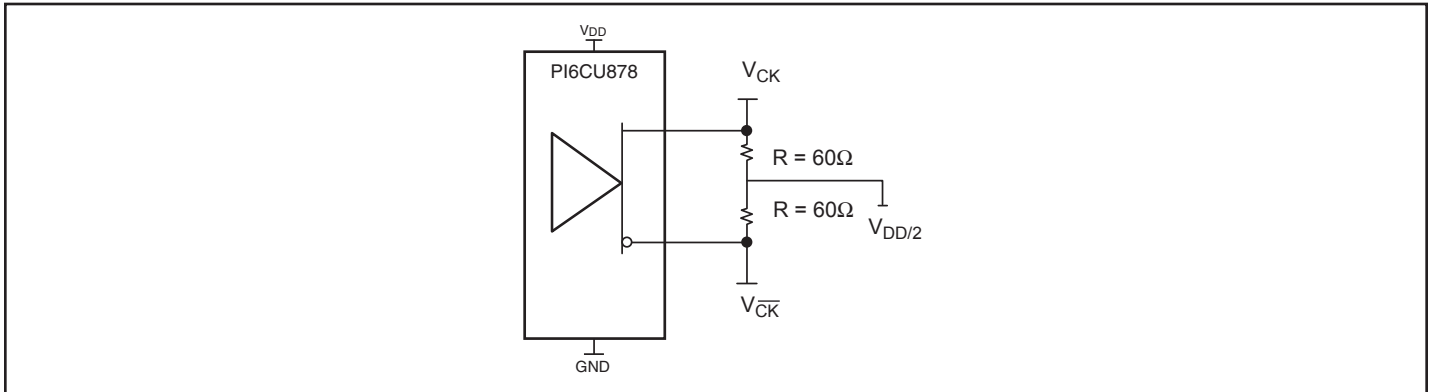

Figure 1. IBIS Model Output Load
- The Output slew rate is determined from IBIS model load shown in Figure 1. It is measured single-ended.